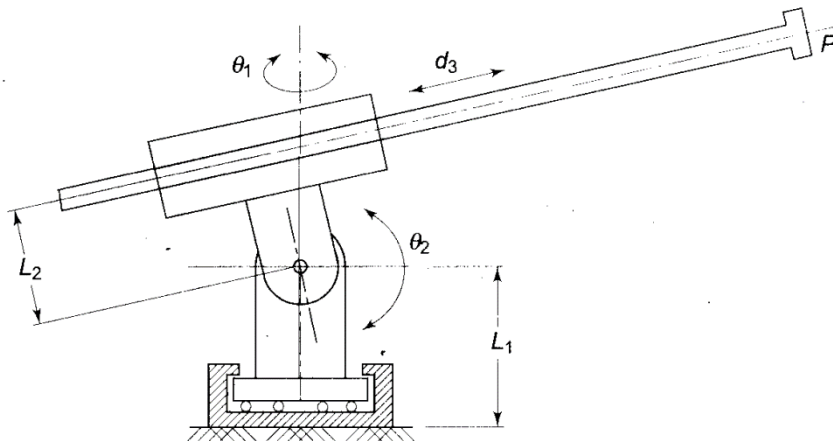

Figure 4
- (c) For the 3-DOF industrial arm shown in Figure 4, design a linear trajectory with parabolic blends. The initial and final position of the end-effector is expressed by homogenous transformation matrices  $T_s$  &  $T_g$  given below and time taken for traversal is 5 seconds.
Homogenous Transformation Matrices for Industrial Arm in Figure 4:
Inverse Kinematics for Industrial Arm in Figure 4: